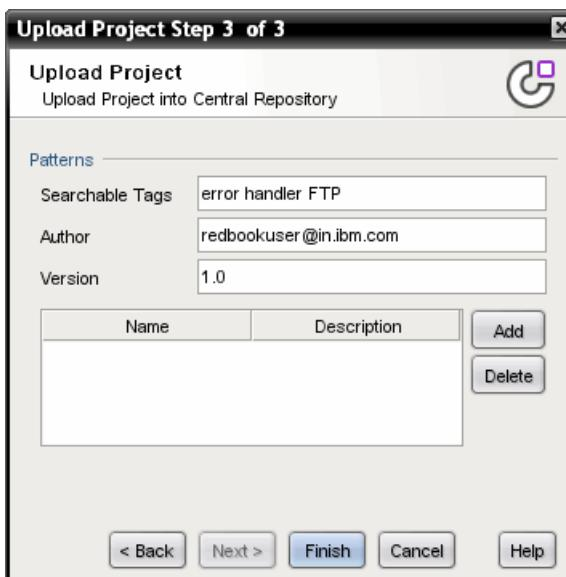
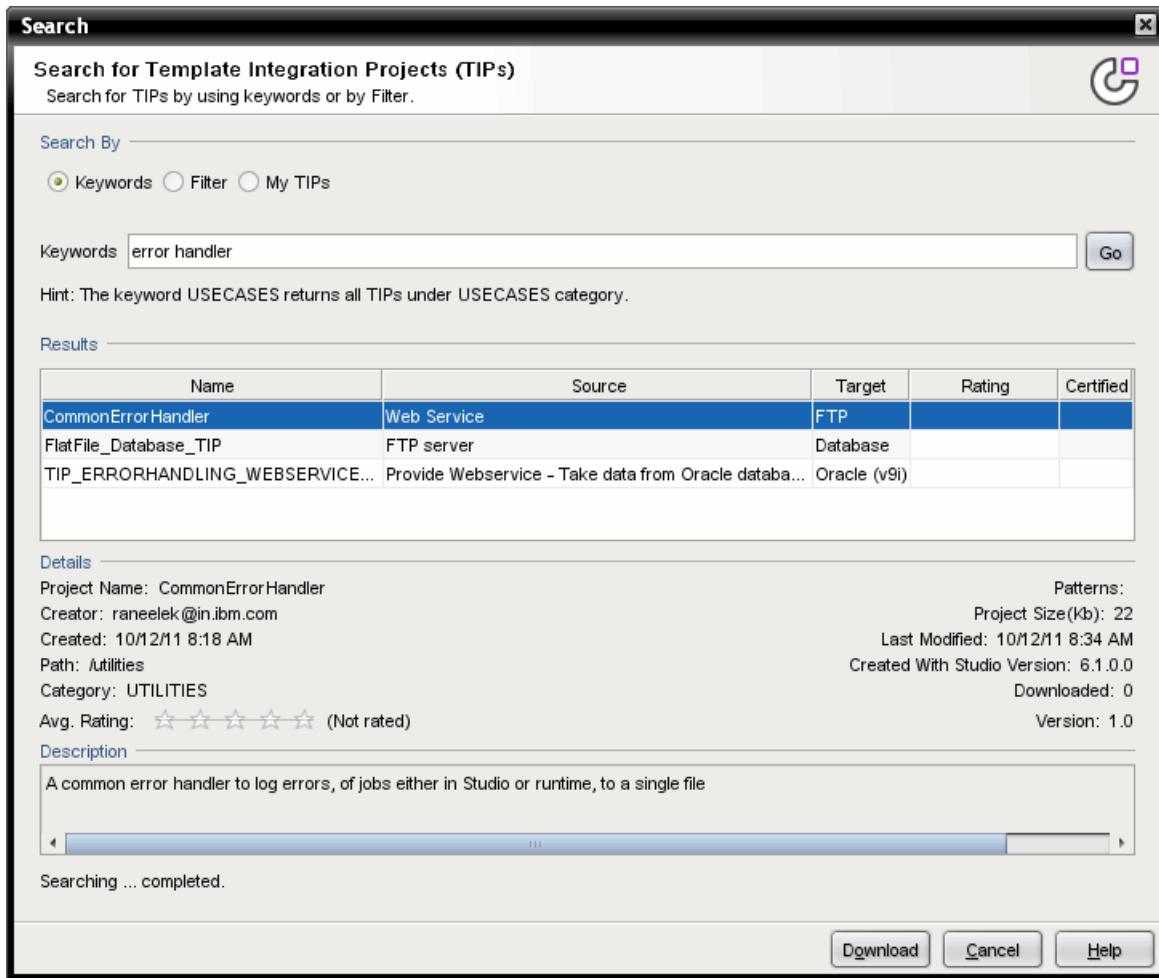

Figure 7-19 Step 3: Common error handler TIP upload
Figure 7-23 TIPs search result
5. The Upload Project Step 3 of 3 window opens, as shown in Figure 7-19.
In the keywords field, enter the text error handler, as shown in Figure 7-23 on page 311, and then click **Go**. Notice that the text is part of the searchable tags entered in Figure 7-19 on page 307. The result is a list of TIPs matching the search condition. You can view the rating of a TIP (entered by previous users), and you can see which TIPs are IBM certified.